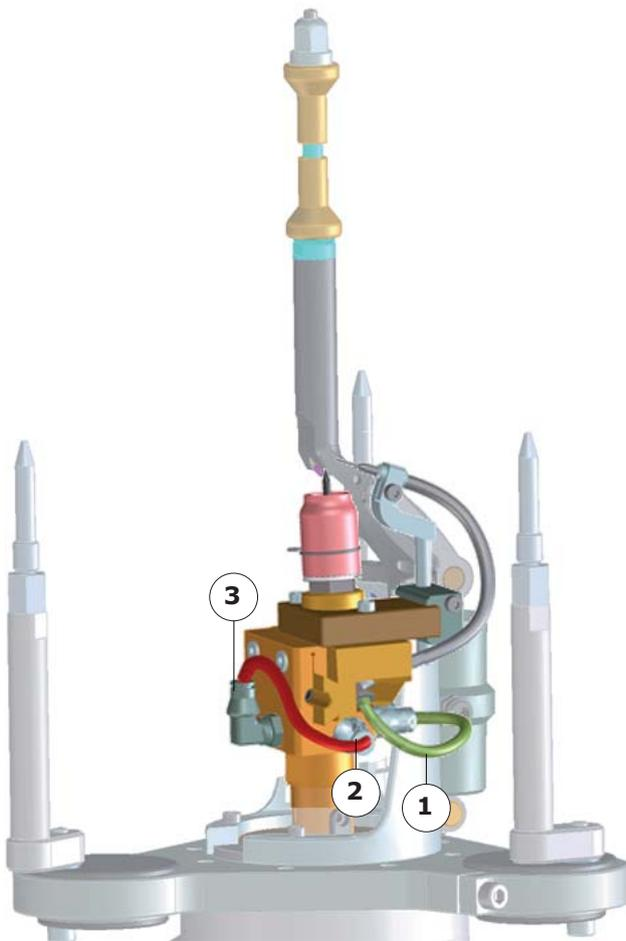

Fig.5.21 - Connecting an air-cooled torch kit
- Gas feed (Fig.5.21 - 1).
- Using a hose, make a loop by connecting the coolant circuit feed (Fig.5.21 - 2) up to the return (Fig.5.21 - 3).